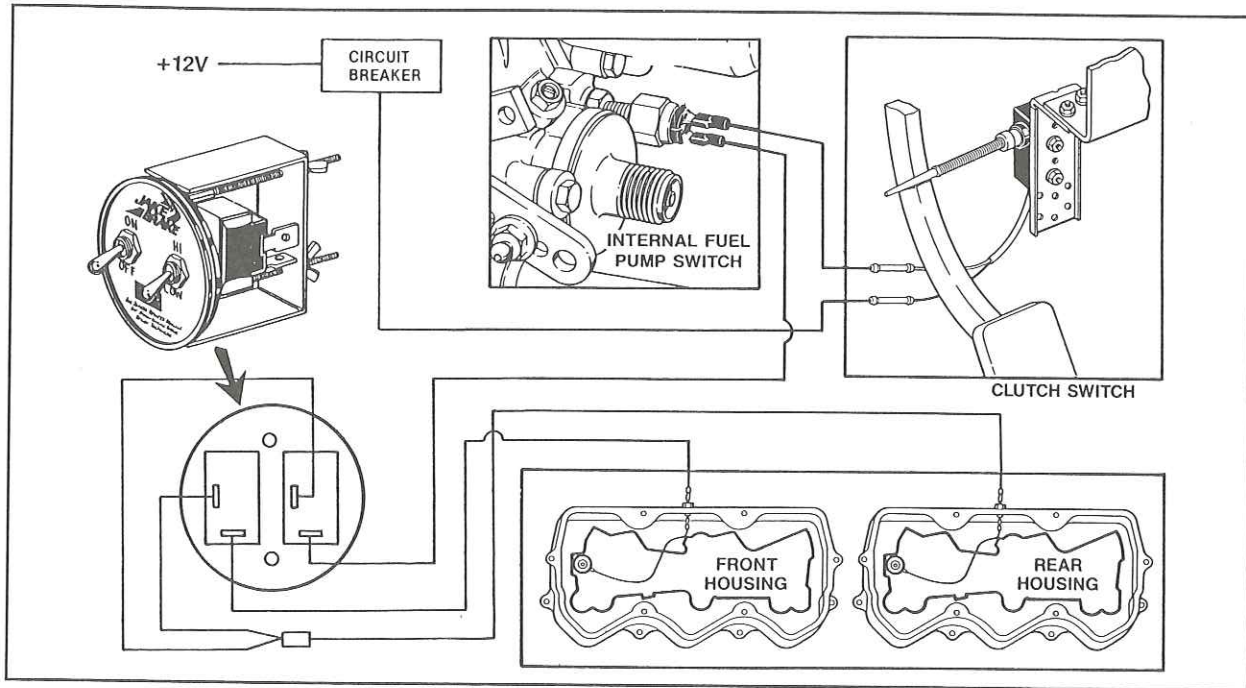

Fig. 45
2. Attach the connectors to the switches as shown in the electrical system installation diagram, Fig. 45.